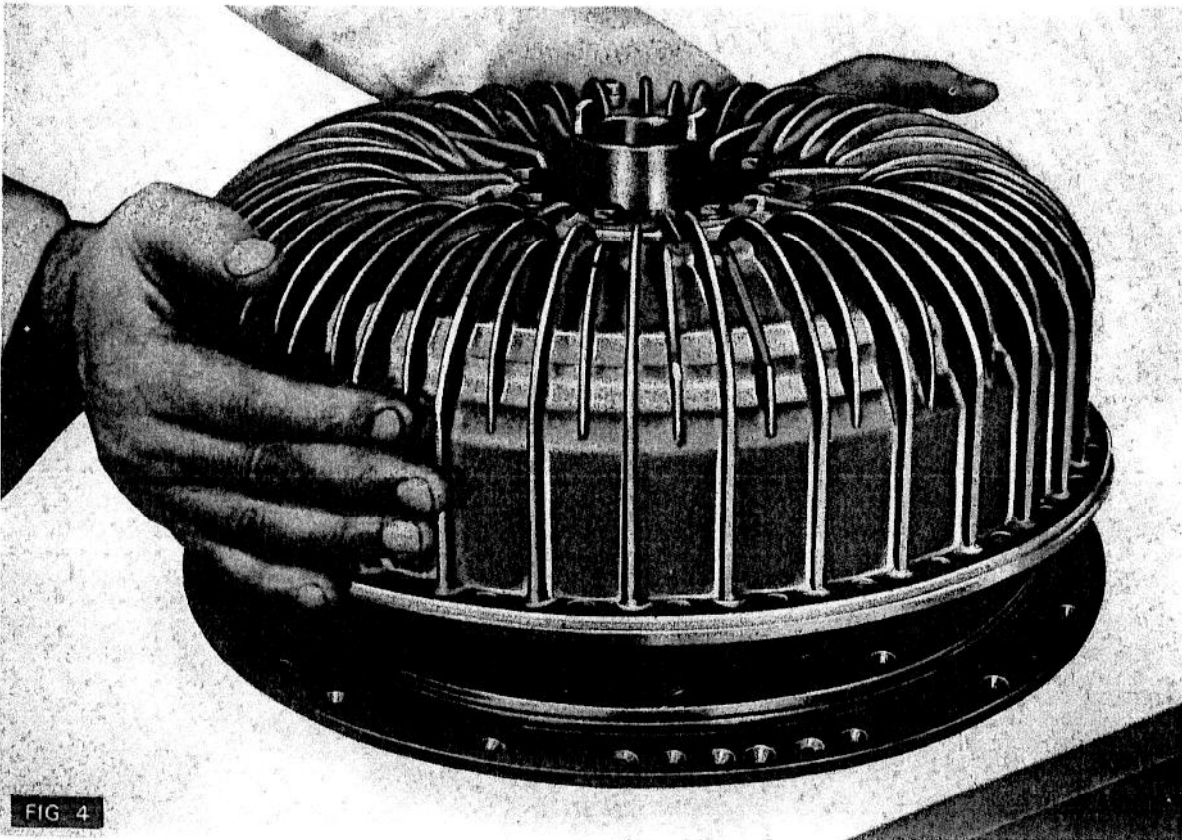

FIG. 4
3. (Fig. 4) Lift the cover plate and gasket from the impeller.